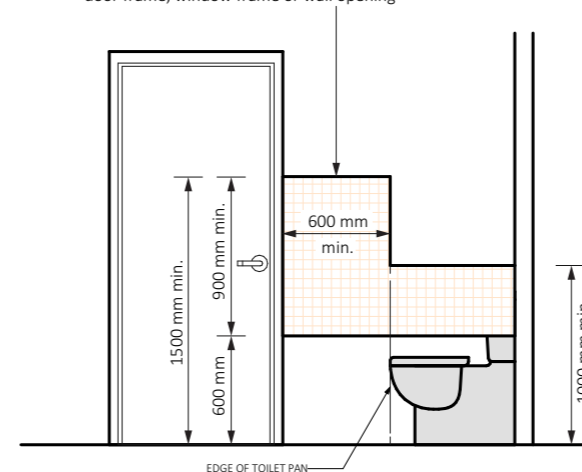

Figure 6.2e: Minimum extent of sheeting for wall adjacent to a toilet pan
(C) FIGURE 6.2E FOR A WALL ADJACENT TO AND WITHIN 460 MM OF THE CENTRELINE OF A TOILET PAN; AND